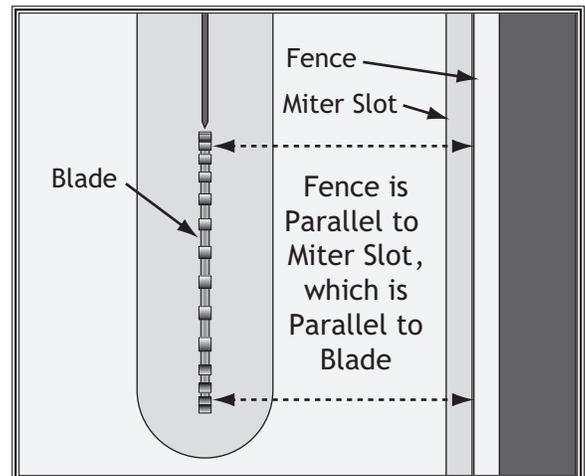

Figure 28. Checking fence parallelism with blade.
21. Slide fence up against right hand edge of miter slot, and lock it in place. Examine how fence lines up with miter slot (see **Figure 28**).